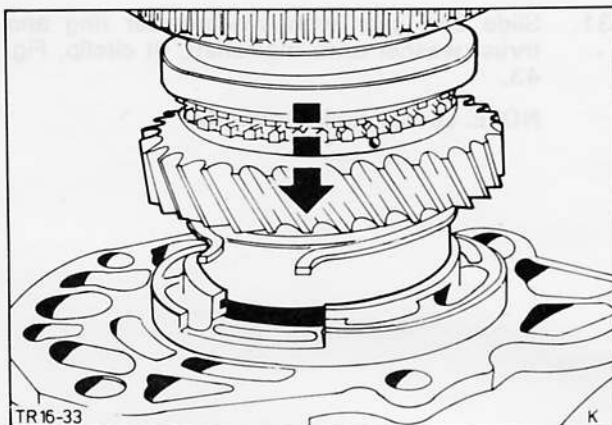

Fig. 46. Insert mainshaft in extension housing
34. Warm extension housing in hot water and fit to mainshaft assembly. Insert previously loosely fitted circlip in the groove in the extension housing, Fig. 46.